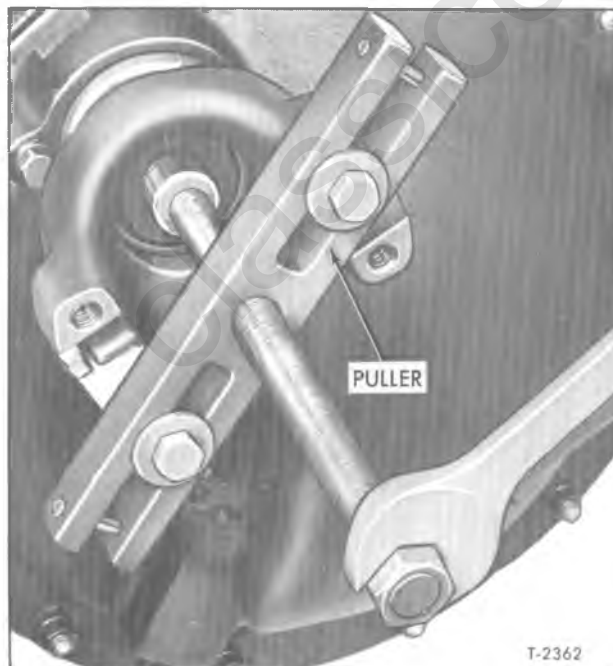

Figure 9—Propeller Shaft Yoke Puller (Typical)
3. Use suitable puller in manner typically illustrated in figure 9 to remove propeller shaft yoke.